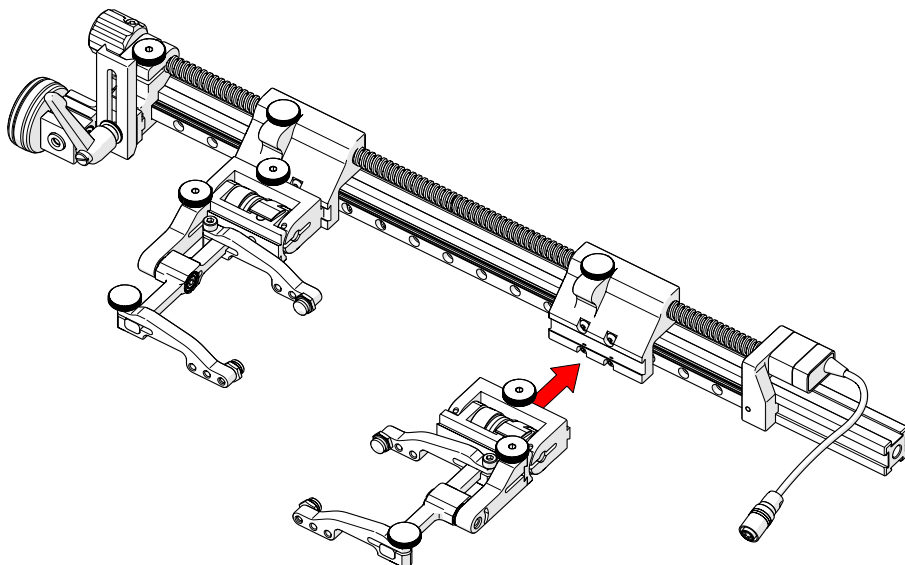

Fig. 153 - Mount probe holders
1. Attach the probe holders (see *Slip Joint Probe Holder* on page 19) to the carriage (Fig. 153).